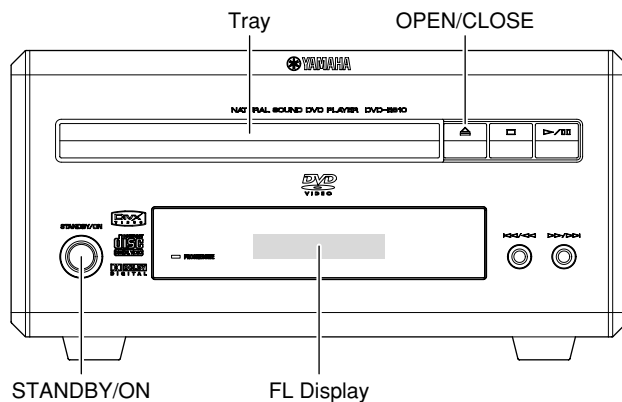

Fig. 1
1. Press the “OPEN/CLOSE” key to open the tray. (Fig. 1)